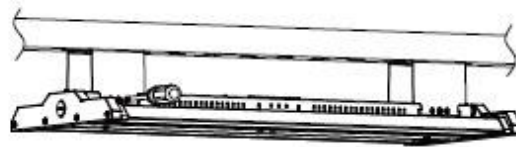
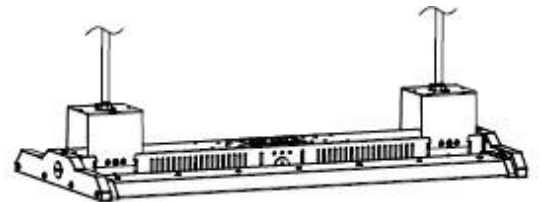

Figure 7
Figure 8
2. Mount the bolt on the rail or ceiling, mount the bracket on the bolt (Figure 7), and install the fixture on the bracket (Figure 8).